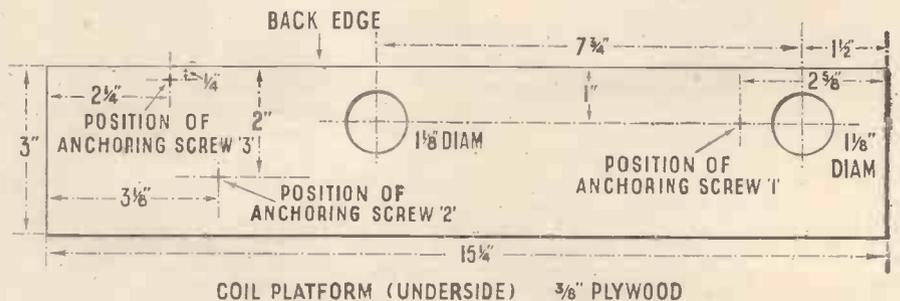

Fig. 2. Here are details of the positions of the coil holder holes and of the anchoring screws.
(F) Drill two 1 1/4-in. diameter holes for coil holders in coil platform, and make three holes with bradawl for anchoring screws in positions shown in Fig. 2.
(K) Screw the two coil holders to coil platform, using four 1/8-in. No. 4 round-head brass wood screws for each. The positions of the coil holders are clearly shown on the blue print. At the top of the blue print is a drawing of the two coil holders looking up at the underneath of the platform. Do not get the coil holders wrong way round. The little bulging slot of each coil holder must point away from the panel. Make sure that the sockets of the coil holders are in their correct relative positions. This is where you will probably go wrong. I repeat that the view of the coil holder sockets is from the underneath of the platform. If you imagine it is the top or get the little bulging slot pointing the wrong way it is entirely your own fault. This is absolutely essential. Fit three anchoring screws to coil platform, in positions shown in Fig. 2. Each screw is 1/8-in. No. 4 round-head brass, and a 1/8-in. x 1/8-in. hole brass washer must be used under each screw. Do not screw fully in, as various wires will be connected to them.